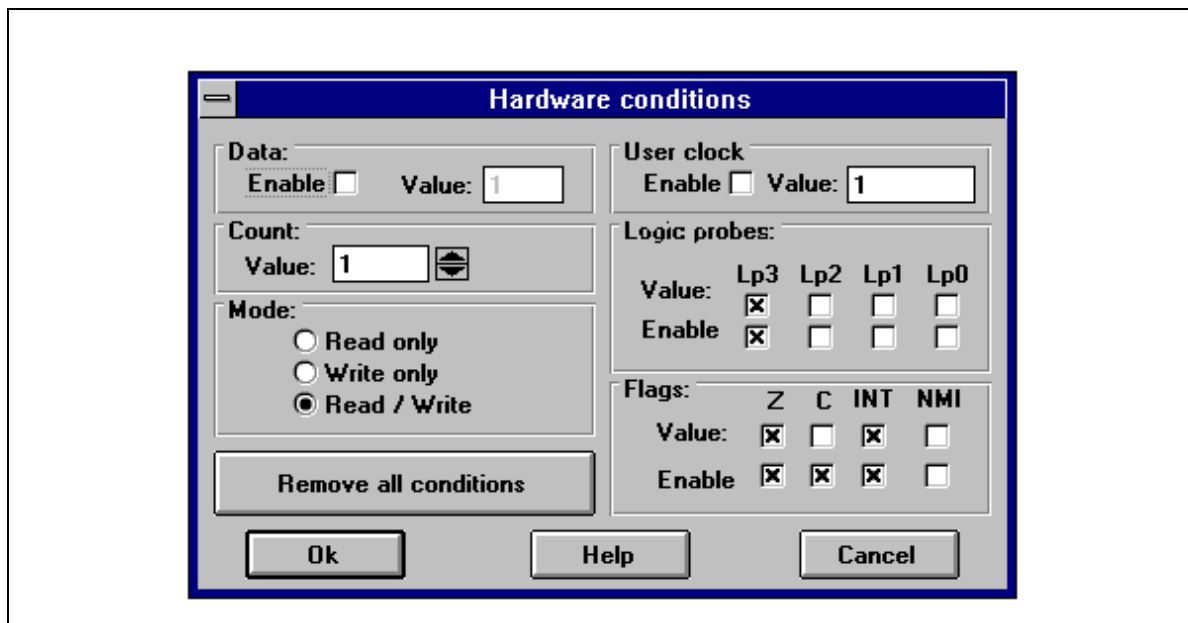

Figure 22: Hardware conditions window
- Click the **Conditions** button. The **Hardware Conditions** window opens as shown in *Figure 22*.